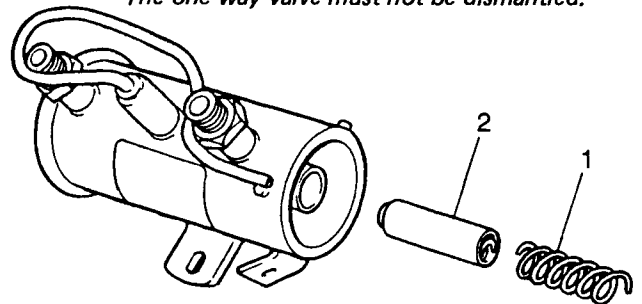

Fig C5.14
- (7) Refer to Fig C5.14. Withdraw the piston return spring (1) with the piston (2). If the piston remains in the pump tube, hold the pump body vertically (in the fitted position) and tap the closed end until the piston is released from its magnetic hold and drops out.